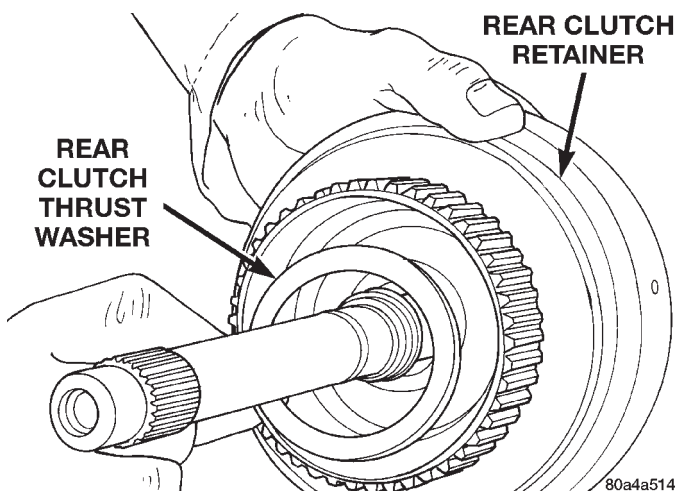

Fig. 161 Installing Rear Clutch Thrust Washer
(16) Coat rear clutch thrust washer with petroleum jelly and install washer over input shaft and into clutch retainer (Fig. 161). Use enough petroleum jelly to hold washer in place.
(17) Set rear clutch aside for installation during final assembly.